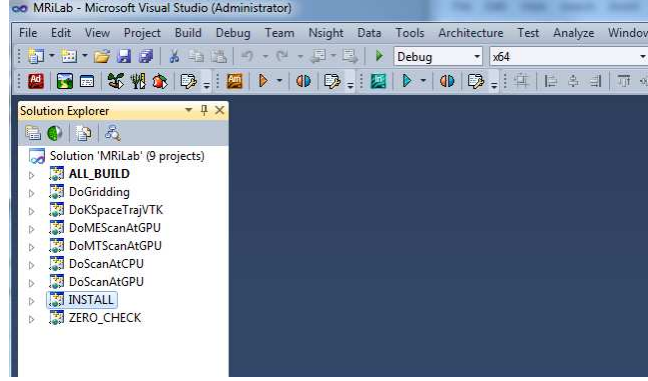

Figure 1.3: Build INSTALL project using Visual Studio
- Step 3 : Build the INSTALL project, compiled MEX binaries will be copied to MRiLab/Lib/bin folder by default (Figure 1.3)